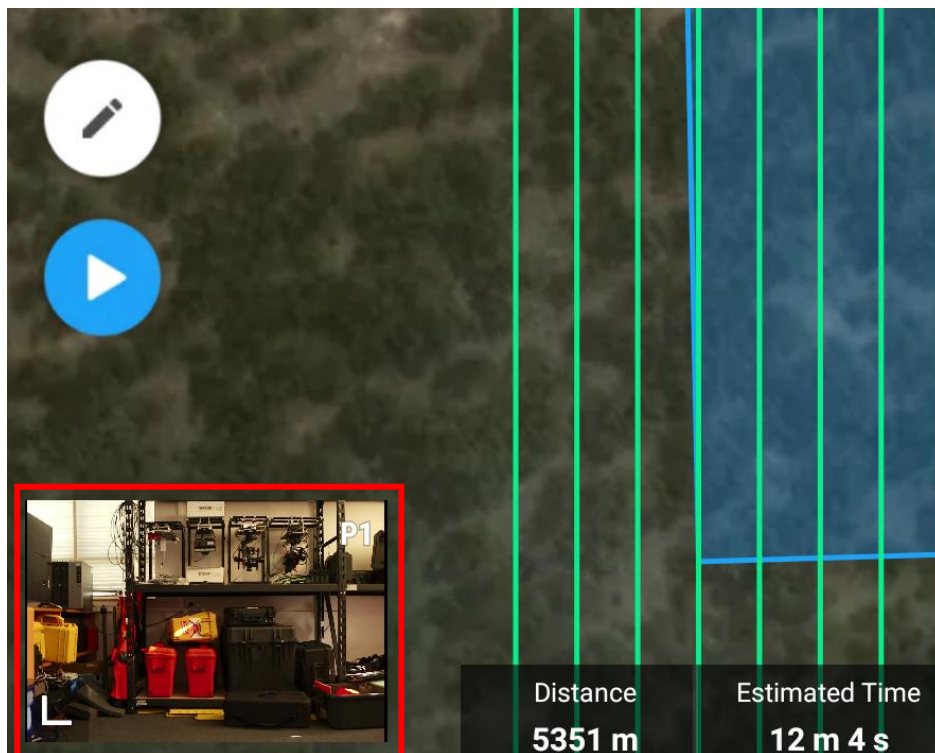

Figure 25: Press the 'P1' camera view and update camera settings.
1. The following steps outline the process of updating the camera settings as well as suggested values. Press the P1 camera view (highlighted in Figure 25) and update the camera settings as shown in Figure 26.